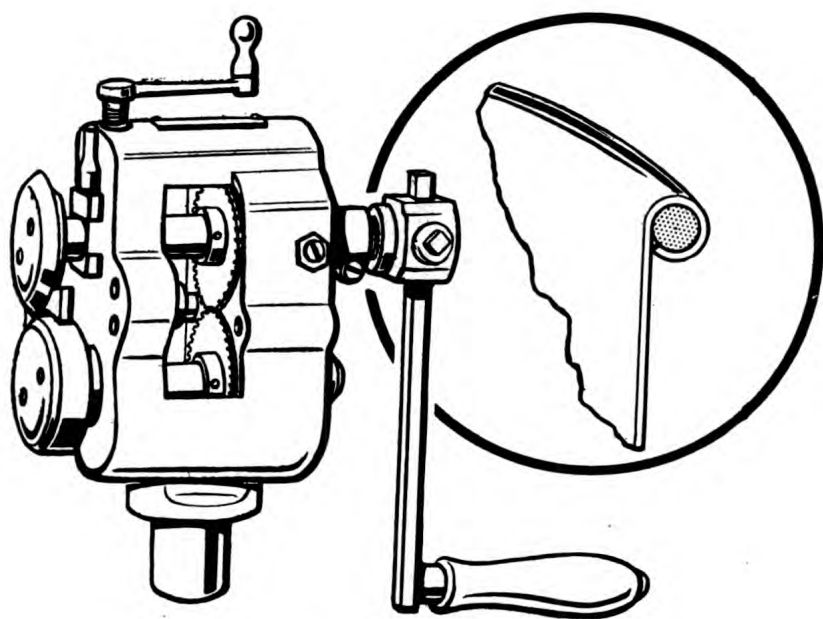
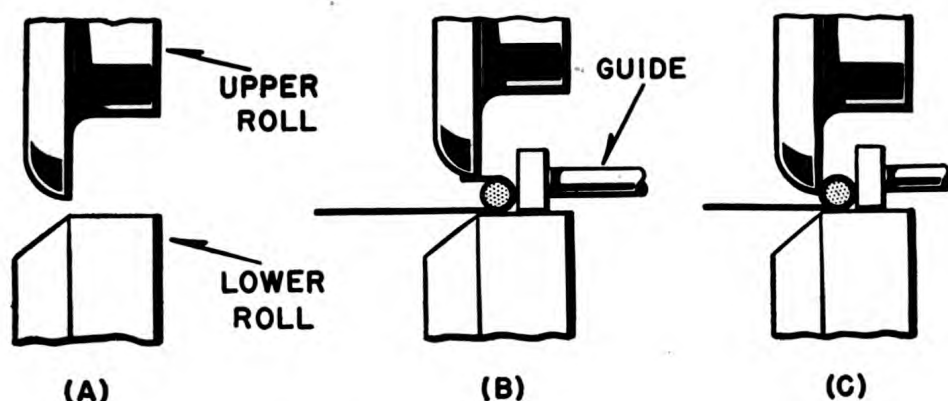

Figure 26.—A wiring machine.
Figure 27.—Turning an edge around a wire.
the edge AROUND THE WIRE. It is a rotary machine with a set of wiring rolls mounted upon it and can be used on either a STRAIGHT or CURVED edge. Figure 26 shows a wiring machine while figure 27 shows the steps taken in completing a wire edge on this machine.
Adjust the rolls so that the top roll is directly above the point on the lower roll where the beveled and flat surface meet as in (A) of figure 27.